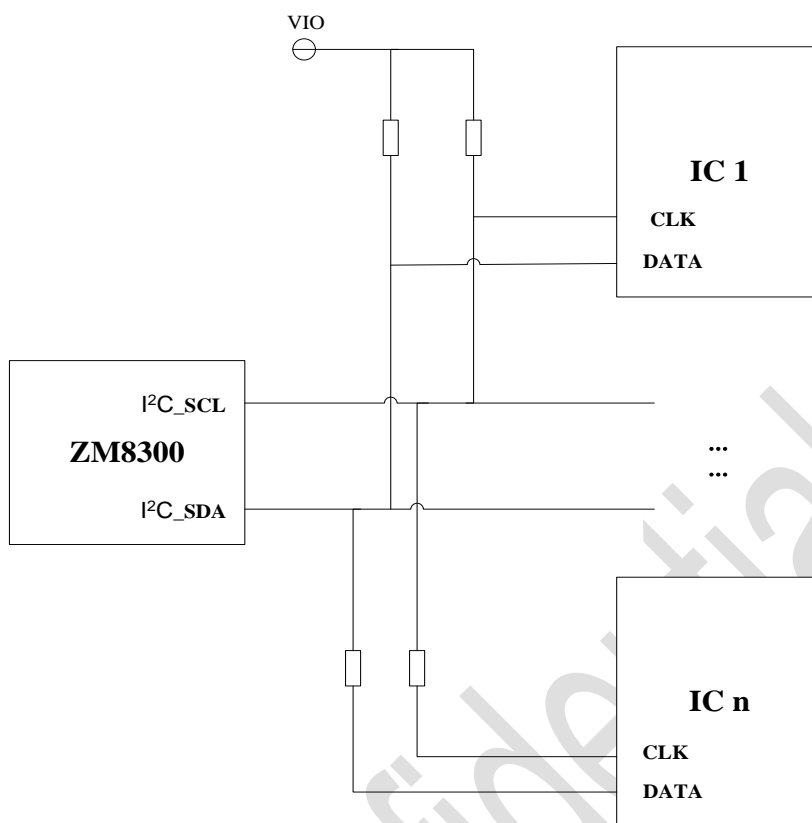

Figure 3-12 I²C Reference Circuit
- 6) When using the I²C bus, configure the corresponding BLSP pin as an open drain output GPIO. In this case, an external device needs to use VIO to provide pull-up. The group of I²C buses provided by the ZM8300G module (BLSPA_2 and BLSPA_3) already has pull-up. To configure other I²C buses, a customer needs to add an external pull-up. Figure 3-12 illustrates an I²C reference circuit.
Figure 3-12 illustrates a circuit recommended for the USB interface. To ensure that subsequent commissioning and upgrading operations can be smoothly performed, customers need to design a USB 2.0 connector on an external system board. ZTE recommends the following model: MOLEX: 1051330001 and LS: GU073-5P-SE-E2000. The bead in Figure 3-14 can be replaced with a resistor. If no high-speed data services are involved and the USB differential signals are properly protected, the common mode inductor can be removed.